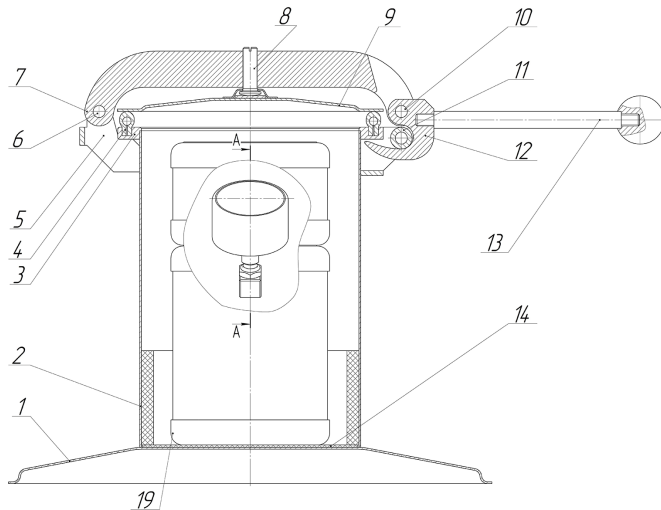

Figure 1 – PGS-2: general view
The test chamber (Figure 1) is a cylindrical barrel 2 with a flange 3, which is provided with an elastic sealing ring 4. A cushion pad 14 is placed on the bottom 1 of a barrel 2.
2.1.3 Adjust the pressure in the test chamber of PGS-2 and check it for leaktight. To do this, place the big insert SU.PGS.010-05 (Position 19 on Figure 1) into the test chamber, close the chamber using the locking device. Readings of the pressure gauge should be within the range of (50 ± 2) mbar. If the pressure is outside of the range, adjust pressure by using the screw 8. To do this, loosen lock crew 15 and tighten the screw 8 if you need to increase the pressure in the test chamber, or loosen it if the pressure needs to be reduced. Then secure the screw 8 with the lock screw 15.